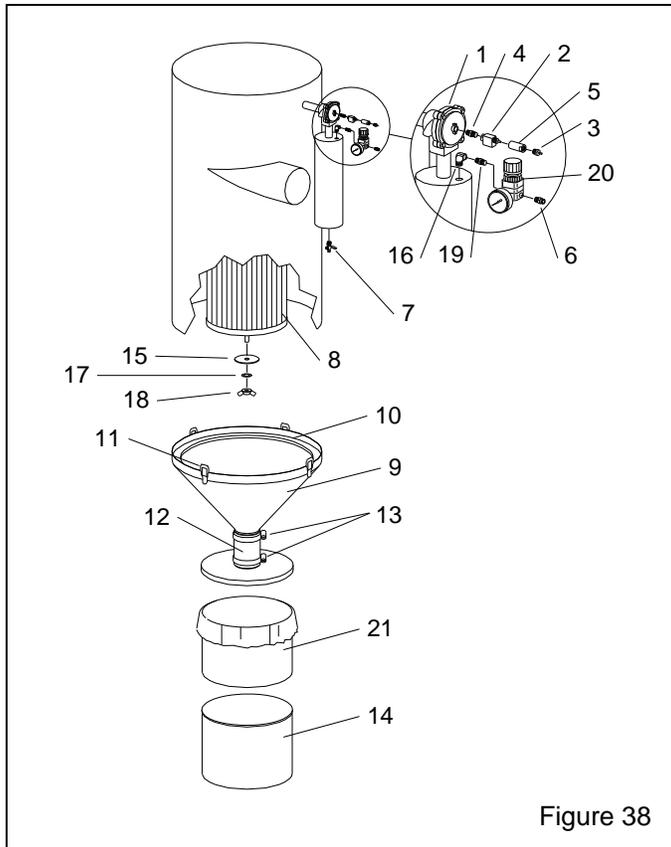

Figure 38
9.11 Dust Collector, Pulsar III, Figure 38